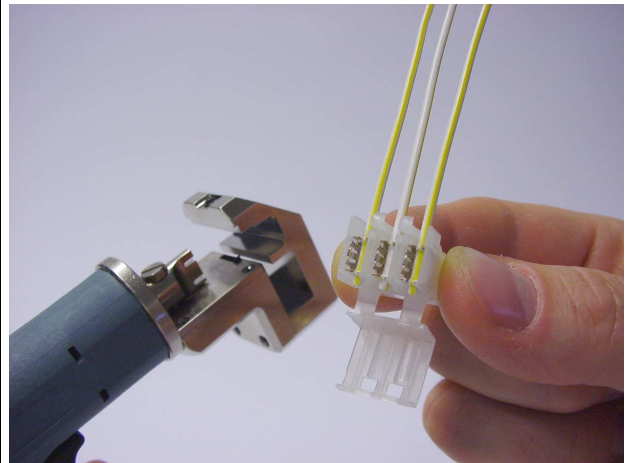

Figure 4
*4. Step 2 and 3 are repeated until the wanted contact cavities are processed. In the end the connector with the joined cable can be removed (see figure 4).*